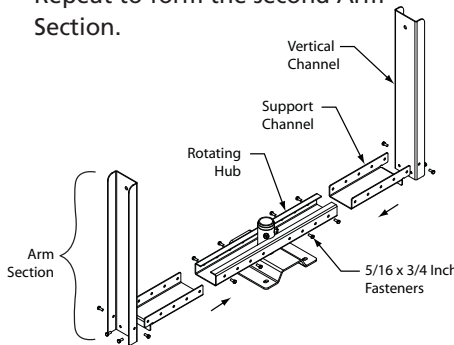

Figure 12 — Ceiling-Mount Bracket Assembly
2. Refer to Figure 12. Assemble (1) Vertical Channel to (1) Support Channel using (4) 5/16 x 3/4 inch fasteners to form (1) Arm Section. Repeat to form the second Arm Section.